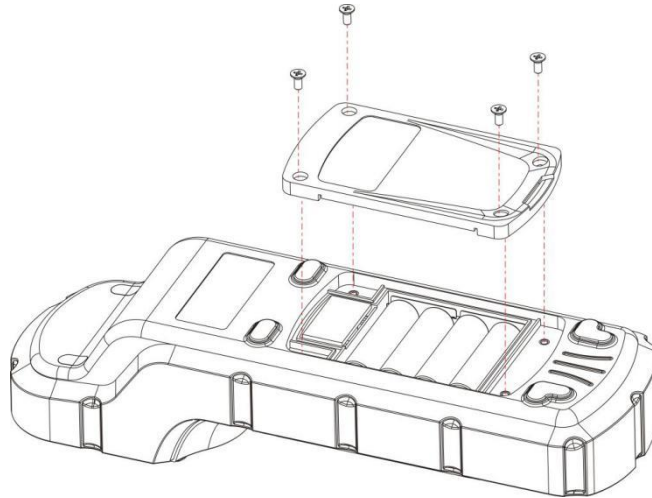

Figure 2. Replace batteries
The HM-900 battery compartment, shown in Figure 2, is on the back side of the instrument. Insert a small pad underneath the screen area to make the back-surface level when the instrument is turned upside down. Install batteries as following:
2. Insert four batteries into the battery holder as shown in Figure 2. Make sure the positive battery polarity marker (+) is aligned with the positive marker (+) on the battery holder.